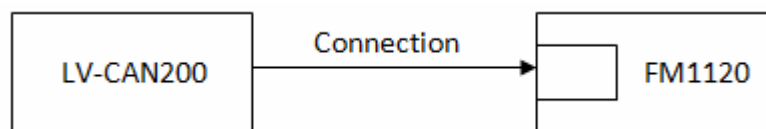
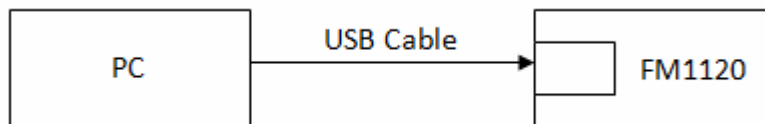

Figure 51 Connect adapter LV-CAN200 to FM1120
Figure 56 Connect FM1120 to PC and configure
SCAN function – is in use when FM1120 is connected to CAN adapter (Figure 56), then wait 10s (Note, that car engine must be started), disconnect adapter from FM1120, and connect PC USB cable to FM1120 Device (Figure 51). It is very important not to disconnect FM1120 from power source during this operation, because if FM1120 is reconnected all received CAN bus data will be lost. FM1120 remembers received data from LV-CAN200 and at the end of the procedure when “SCAN” button is pressed, user will see all CAN data which is sent by adapter. Enable CAN data which needs send to server and save configuration pressing “Save” button.
2. Disconnect LV-CAN200 from FM1120, and connect PC USB cable to FM1120 Device (Figure 51). It is very important not to disconnect FM1120 from power source, because then all CAN data will be lost.